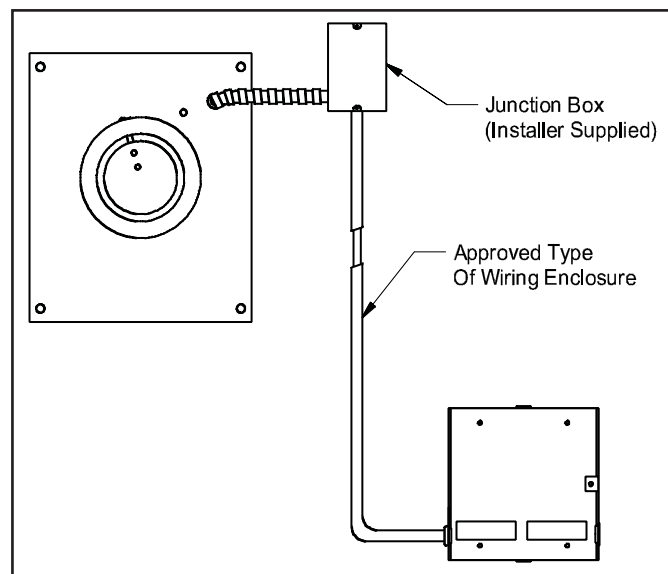
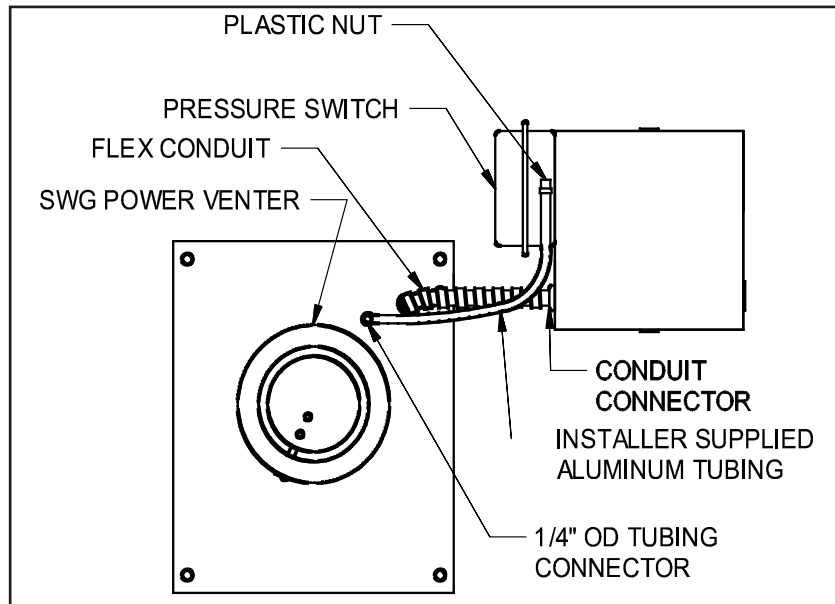

Figure 2
Figure 3
2. Fasten the flexible conduit from the SWG Venter into the conduit connector. Mount the CK-41P control box onto a non-heated vertical surface of the appliance or nearby wall or floor joist through the four dimpled locations on the base of the box. **NOTE:** The mounted pressure switch diaphragm must be mounted with a vertical orientation; see label on pressure switch. (See Figure 3) If required, run additional wiring as in figure 2 and connect to CK-41P control box, if required, using the supplied flexible conduit connector and approved connectors and anti-short bushings.
1. Attach the 1/4" tubing connector to the pressure tube on the SWG Venter. (See Figure 3)